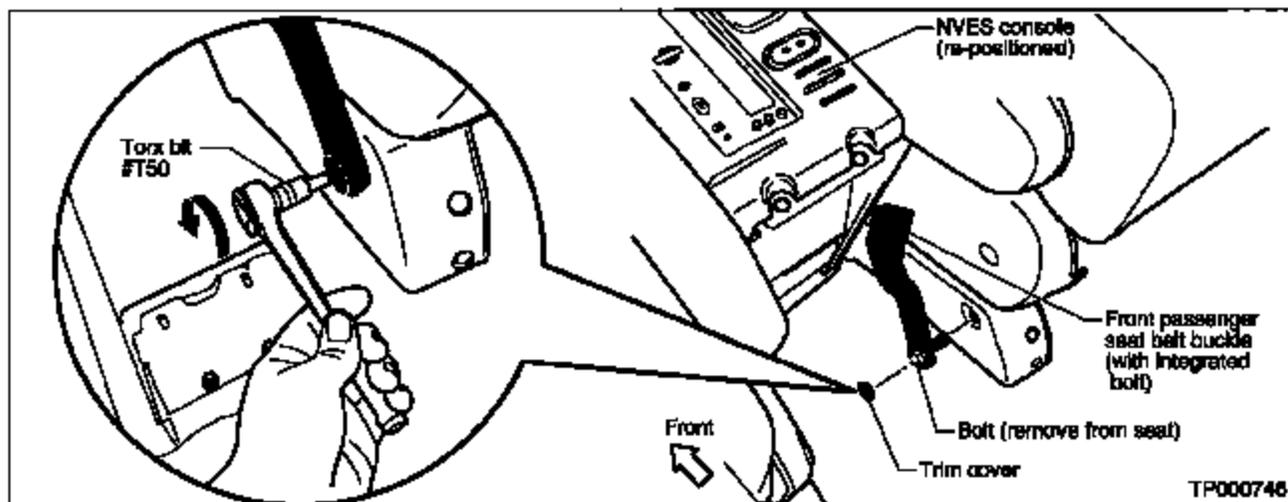

Figure 5
2. Unscrew (using a Torx-bit #T50) and remove the trim cover over the seat belt buckle mounting bolt (see Figure 5).
3. Unscrew the bolt and remove the front passenger seat belt buckle (see Figure 5).